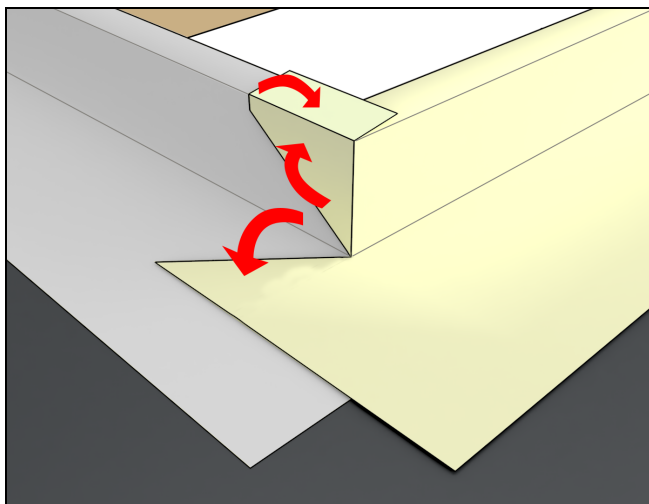

Figure 34
**6.** Wrap the jambs and the corners of the curb with the adhesive flexible flashing and create proper water-shedding lap. Repeat by applying the adhesive flexible flashing to the head jamb and the corners of the curb and create proper water-shedding lap. See Figure 34.